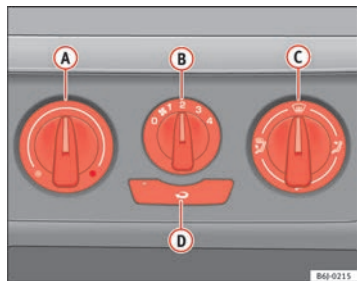

Fig. 89 Heating controls on the dash panel
- Turn the temperature selector ⇒ **fig. 89 A** anti-clockwise.
- Turn the temperature selector ⇒ **fig. 89 A** clockwise to select the desired temperature.
- Turn the temperature selector ⇒ **fig. 89 A** clockwise to reach the maximum temperature.
- Turn the temperature selector ⇒ **fig. 89 A** to the heating area.
- Close outlets ③.
- Open and turn outlets ④ towards side windows.